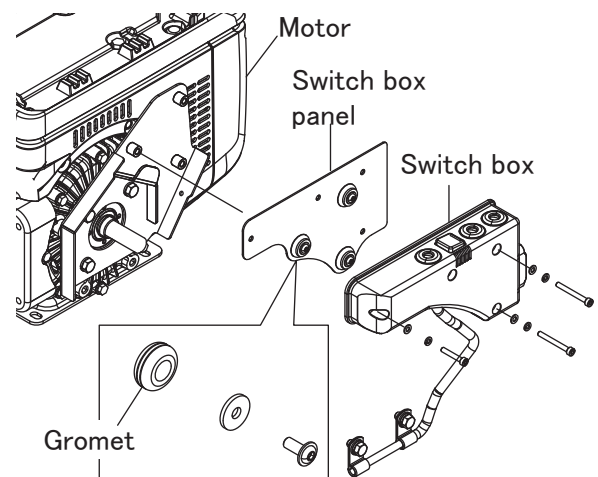

Fig.25
5. Checking the switch box (fig.25)
- c. Remove the switch box, then replace the grommet installed to switch box panel to new one (fig.25).